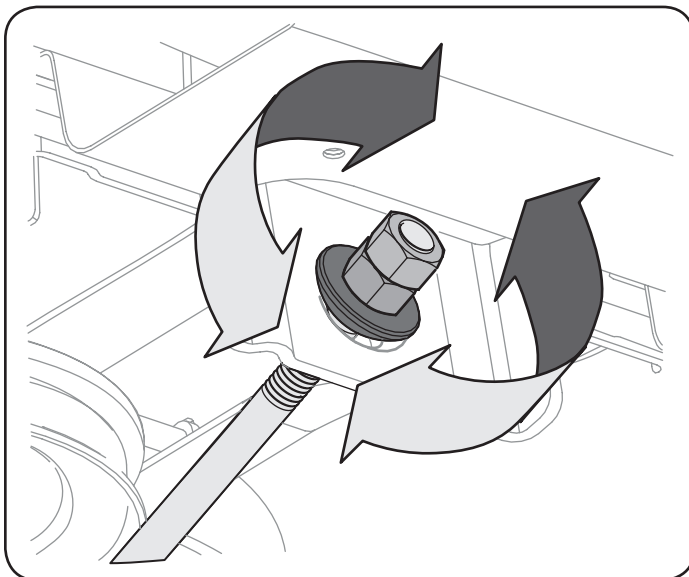

Figure 22
4. To raise the front of the deck, loosen the outer nut then tighten (thread inward) the nut against the front hanger bracket. See Figure 22. When proper adjustment is achieved, re-tighten the outer nut to 25-30 ft.-lbs.
5. To lower the front of the deck, loosen the outer nut then loosen (thread outward) the nut, away from the front hanger bracket. See Figure 22. When proper adjustment is achieved, re-tighten the outer nut.